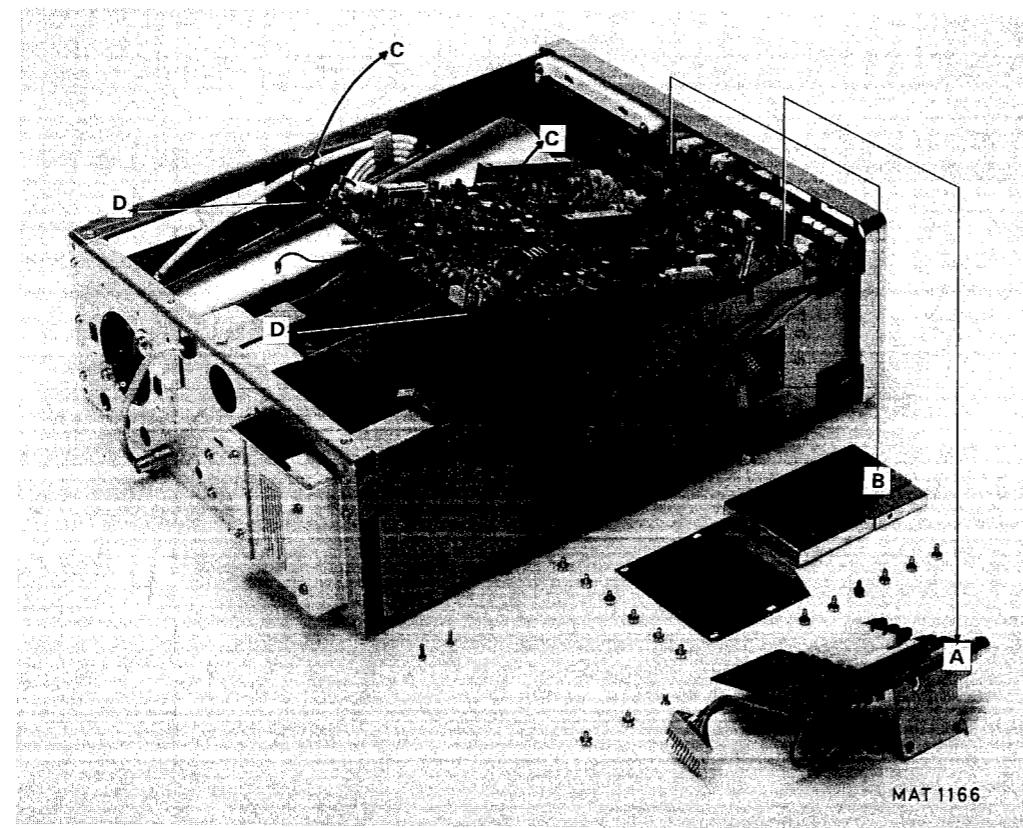

Fig. 6.5. Removal of pre-amp. and trigger unit
6.2.7.1. Removing the trigger source unit (see fig. 6.5.A)
- Remove the trigger source unit as indicated in chapter 6.2.7.1. (see also fig. 6.5.A).
- Remove the metal screening plate from the attenuator part. This plate is attached by means of 6 selftapping screws (see also fig. 6.5.B).
- Lift the unit in the direction indicated in fig. 6.5.C.
- Take the unit out of the instrument in the direction indicated in fig. 6.5.D).